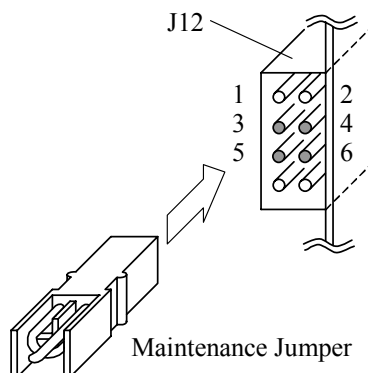
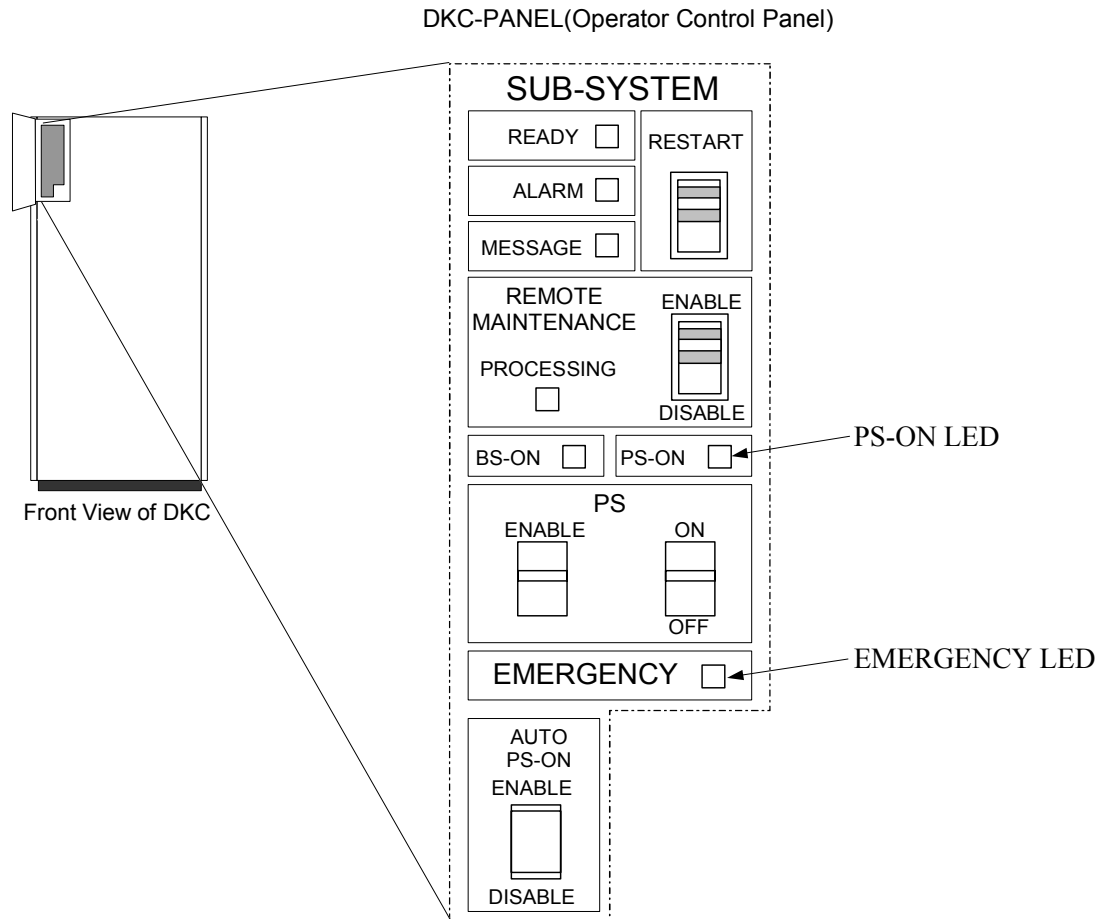

Fig.16-2 Insertion of Maintenance Jumper
Fig.16-3 LED Location
- d. Remove the maintenance jumper after PS-ON LED is off. (Refer to Fig. 16-2 and Fig. 16-3)